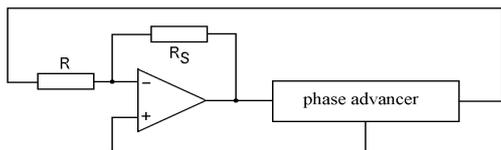

Fig. 10.5
10.3.1 Oscillator (Generator) with phase shifter tests (Fig. 10.5).
- Calculate resistance R_S value in operational amplifier negative feedback ($R_S \approx 30R$ for 3 RC structures, $R_S \approx 18R$ for 4 RC structures). Connect the circuit. Pay attention when connecting to operational amplifier inverting input the resistor R from the last phase shifter's RC structure (Fig. 10.5).